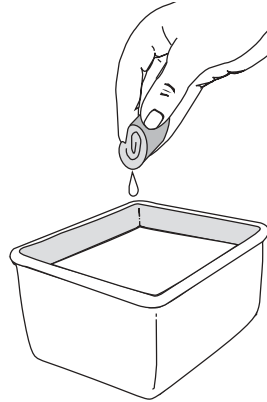

Figure 23
3. Wash the filter in detergent and water. See Figure 23. Rinse the filter thoroughly. Squeeze out excess water. Allow it to dry completely.